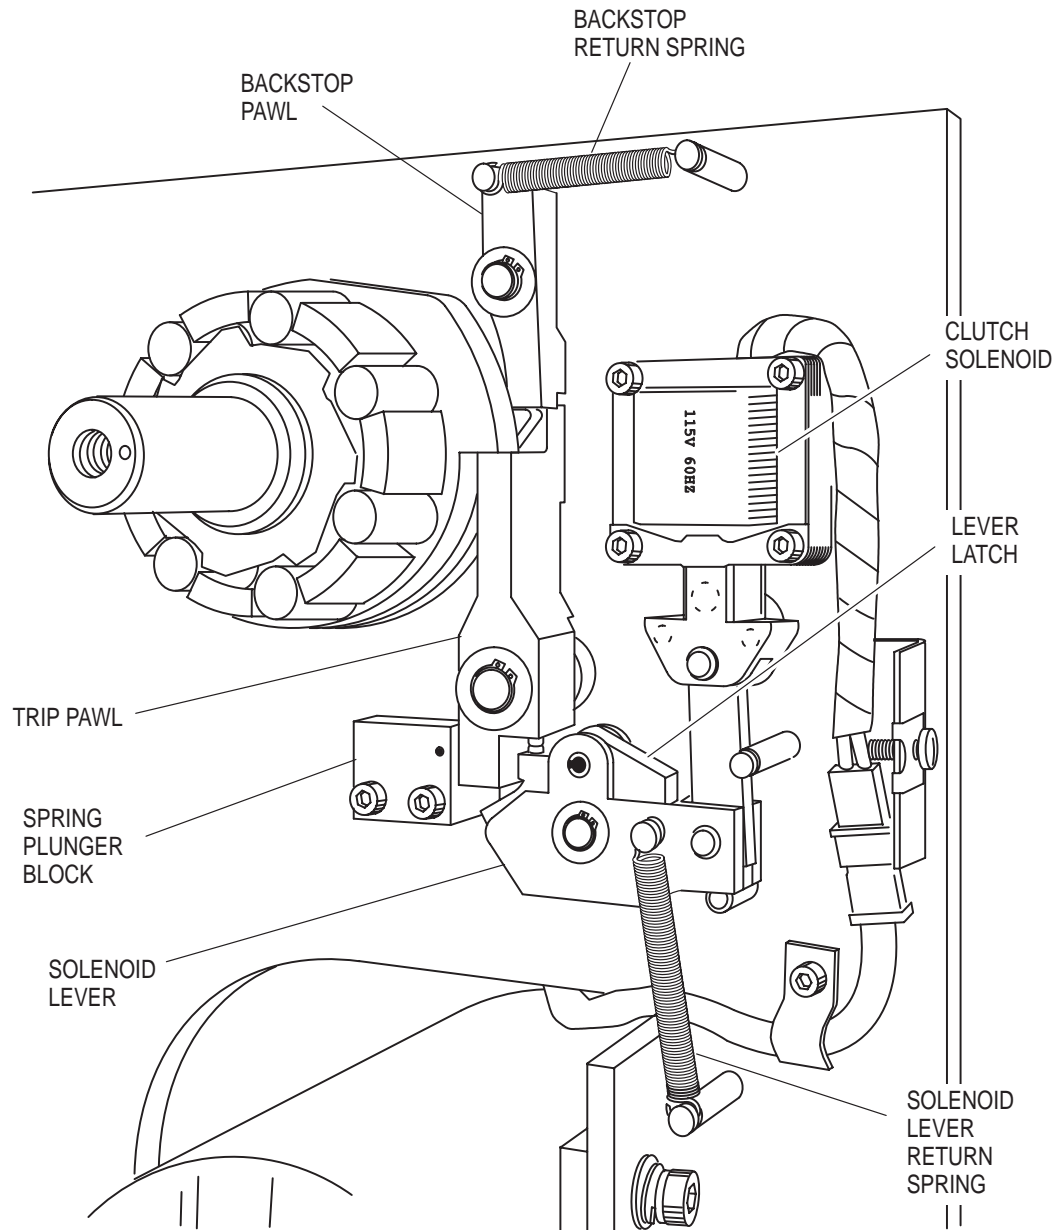

Figure 2-2. Clutch Trip Mechanism
D. The *clutch trip mechanism* trips the clutch when the solenoid is energized by the control circuit of the machine. See Figure 2-2.